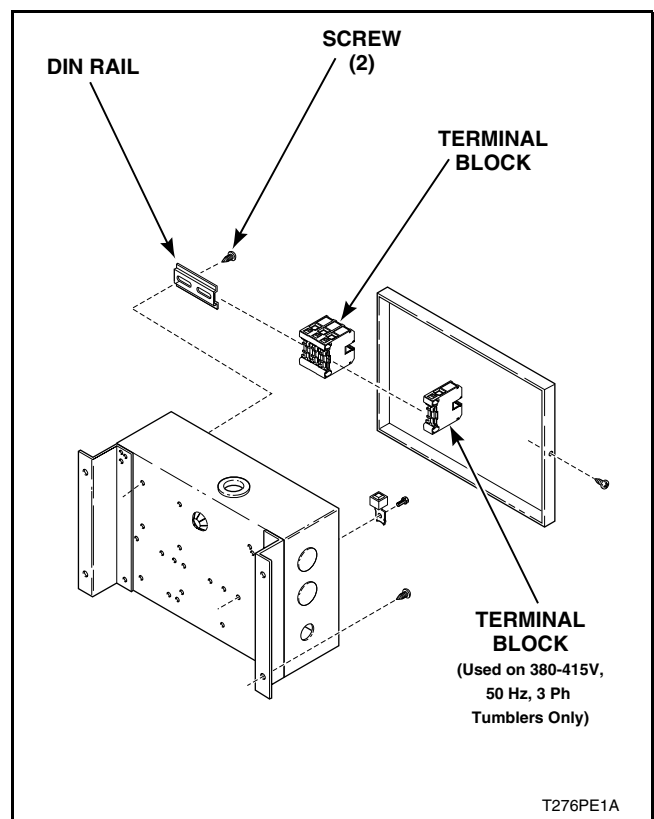

Figure 26
**NOTE:** Terminal blocks and contactors on units manufactured after September 1, 1994 are din rail mounted. Terminal block is one piece. Refer to *Figure 26*.